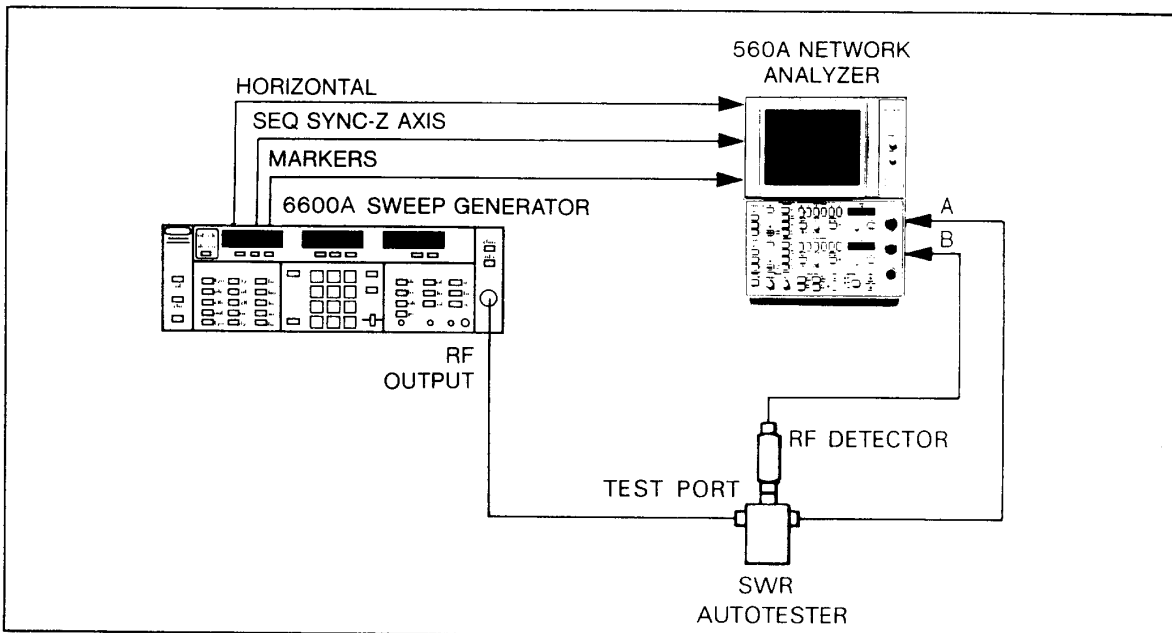

Figure 3-6. Equipment Setup for Storing Transmission System Residuals
- a. Using Memory To Store and Subtract Transmission System Residuals. A primary use of memory is to store microwave transmission measurement system residuals. These residuals, caused by inherent frequency response variations within the measurement system, are later subtracted from measured data. The process of storing residuals and making them available for later subtraction from input data is known as display normalization. An equipment setup for transmission loss/gain and return loss measurements is shown in Figure 3-6. A procedure for normalizing the 560A display is presented in Table 3-1. This procedure, with its notes and waveform photographs, is designed to provide a demonstration of how the memory controls are used during actual measurement applications. The interaction between display and memory that occurs during the Display Normalization Procedure is summarized in Figure 3-7.
With an RF detector connected to the test port of an SWR Autotester (Figure 3-6) and the MEMORY switch in the OFF position (as shown in the block diagram), transmission residuals are applied only to the display. This is shown by Event 1. When the momentary STORE TRACE switch is activated — Event 2 — the transmission residuals are also stored in memory. When STORE TRACE is released in Event 3, the transmission residuals are in both places: display and memory. In Event 4, the MEMORY switch is changed from OFF to SUBTRACT. The transmission residuals already stored in memory are subtracted from the input transmission residuals. The difference signal, zero, is a straight line that is displayed on the CRT. Event 5 shows the results when a DUT is connected between the RF detector and the SWR Autotester test port. The transmission residuals are now subtracted from the DUT transmission signal, leaving the true DUT characteristics for display. Note: REF POS LOCATE reference line and dB PER DIVISION switch-bank settings can be altered without affecting calibration.